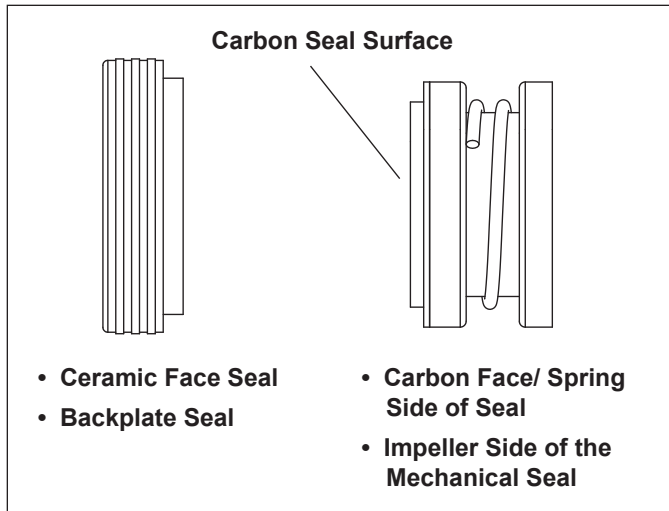

Figure 11. Mechanical Seal
1. Press the carbon face seal half (see Figure 11) on the motor shaft using a twisting motion. Make sure the carbon surface is facing toward the ceramic ring in the backplate.
2. Remove the carbon face seal half from the motor shaft. (See Figure 11.) This is a spring-loaded seal. Grasp the portion of the seal closest to the impeller body and pull the seal off using a twisting motion.